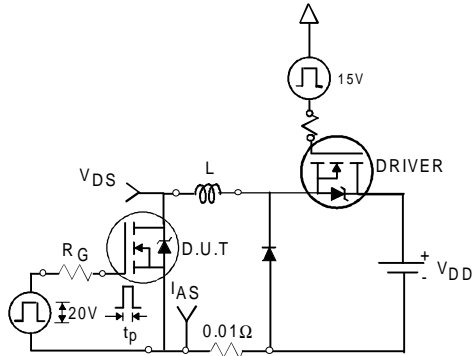

Fig 12a. Unclamped Inductive Test Circuit
| I_{AR} | Avalanche Current① | See Fig.12a, 12b, 15, 16 | A |
3. Equation below based on circuit and waveforms shown in Figures 12a, 12b.